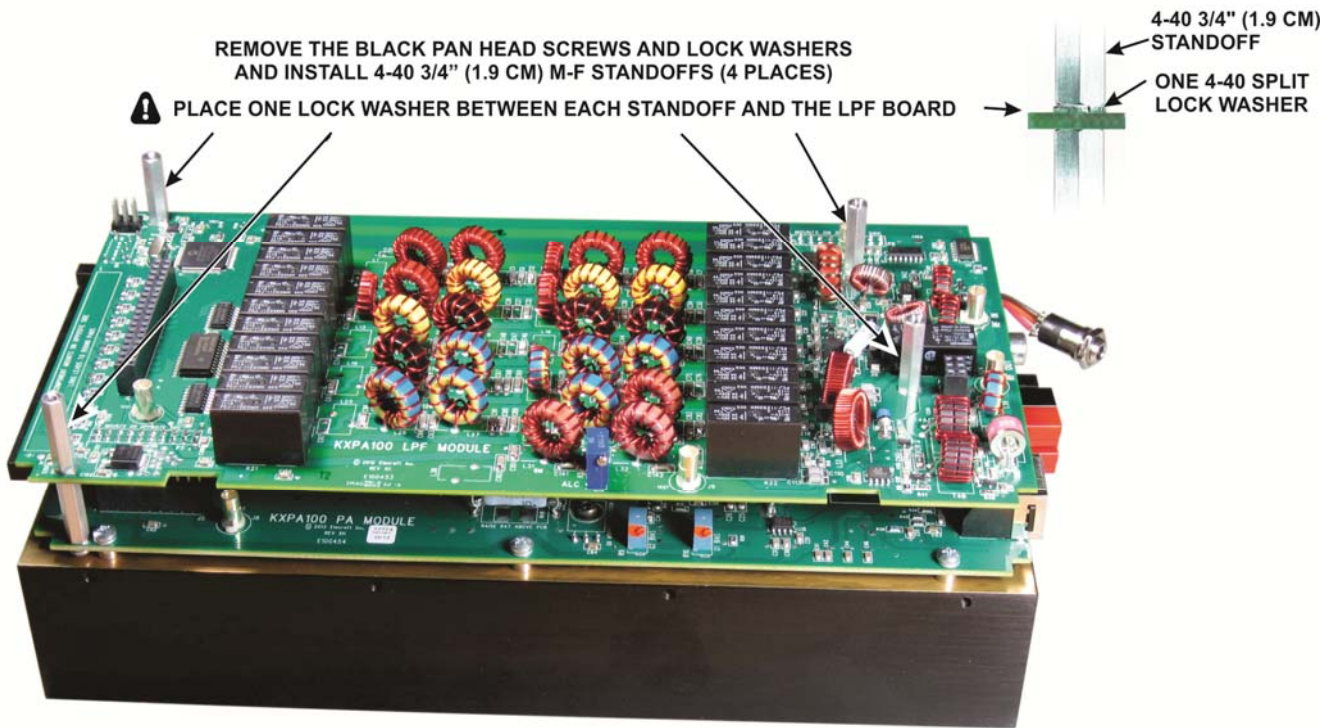

Figure 7. Installing Standoffs for the ATU Module.
□ The KXPA100 circuits are contained on two pc boards: the power amplifier (PA) module mounted on the heat sink and the low pass filter (LPF) module mounted on standoffs above the PA module. Remove the four screws and lock washers holding the LPF module to the standoffs and replace them with standoffs and lock washers as shown in Figure 7.
⚠ Start securing the front panel with screws, lock washers and spacers in the opposite corners of the front panel and check to ensure the TUNE and MODE switches move freely. They only move a small amount when pressed but you should feel a definite movement. If necessary, loosen the hardware at one corner and adjust the front panel position slightly. When you are satisfied, install the remaining screws, lock washers and spacers. If you failed to install the lock washers under each standoff as shown in Figure 7 on page 11, the two rows of LEDs will be too close together to fit in the openings. In that case you must disassemble the unit and install the lock washers as shown in Figure 7 on page 11.